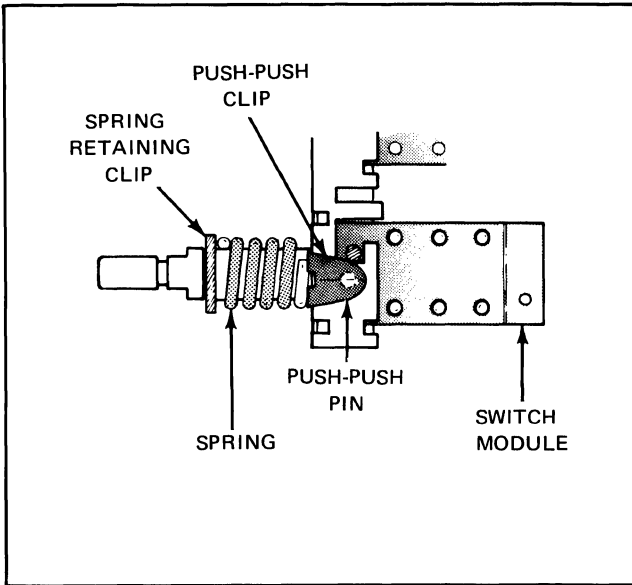

Figure 4-6. EXT REF AND FILT SWITCH DISASSEMBLY
- c. Remove push-push pin and push-push clip (Figure 4-6).